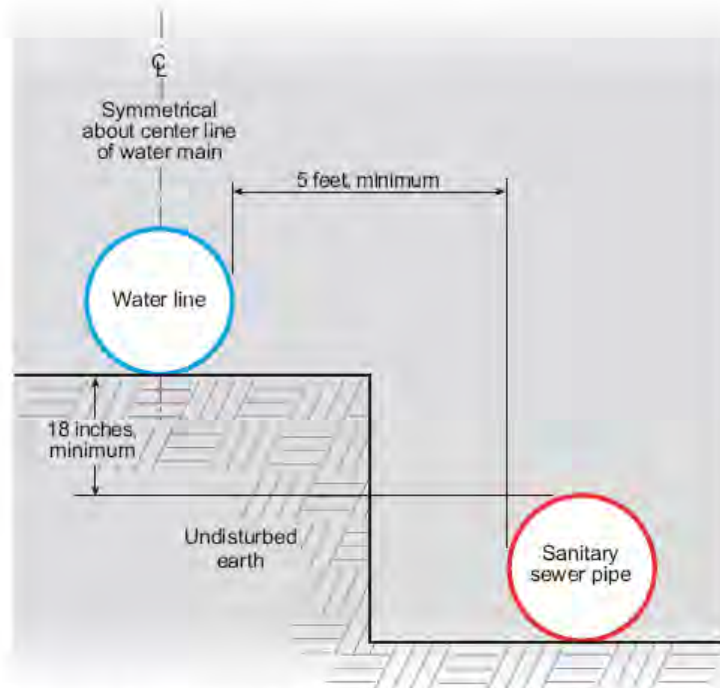

Figure C1-3. Required Separation Between Water Lines and Sanitary Sewers, Unusual Conditions Parallel Construction
- If sewers must be located in the same trench as a potable water line, special construction and mitigation is required. Both water lines and sewer lines shall be constructed with a casing pipe of pressure-rated pipe material designed to withstand a minimum static pressure of 150 psi. The water line shall be placed on a bench of undisturbed earth with the bottom of the water pipe at least 18 inches above the crown of the sewer, and shall have at least 5 feet of horizontal separation at all times. Additional mitigation efforts, such as impermeable barriers, may be required by the appropriate state and local agencies. See Figure C1-3.